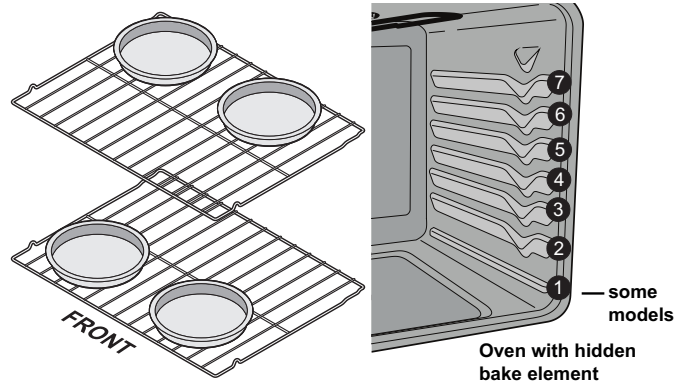

Figure 13: Pan spacing and oven rack positions
- When using 2 oven racks place racks in positions 3 and 5 and position cookware as shown in Figure 13.